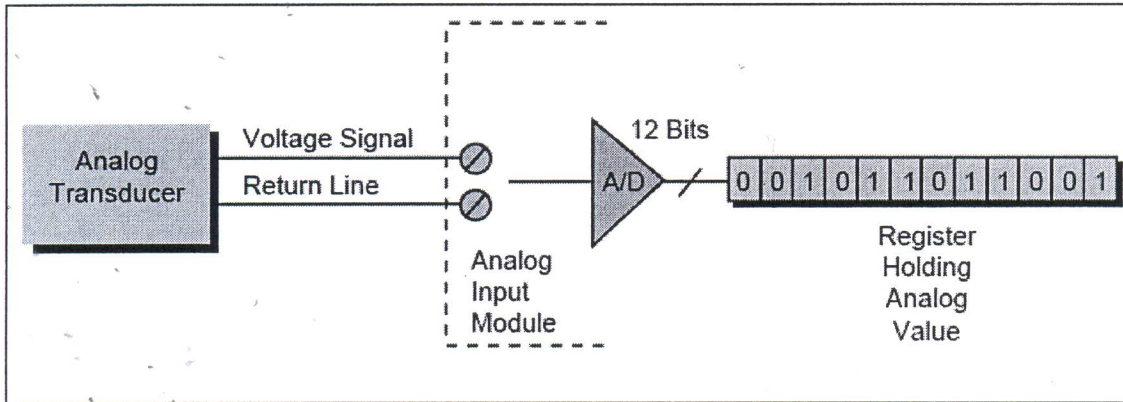

Figure 2 : Analog data input for digital transmission.
- (a) Draw the graph based on **Figure 2**, data streams for the following line coding scheme: